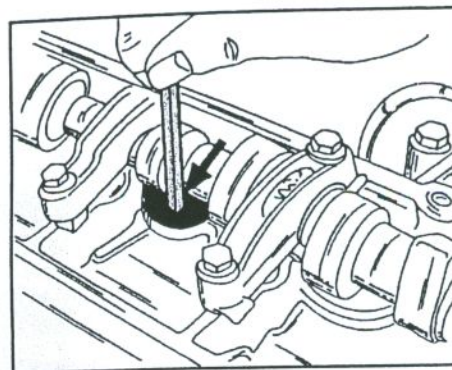

Fig. 1.27 – Checking of a hydraulic compensating element.
- Use a drift, as shown in Fig. 1.27 and push the tappet towards the inside, or try to move the tappet with the fingers.